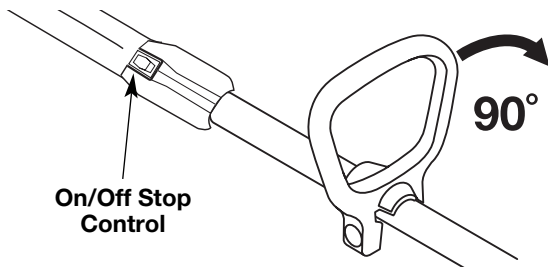

Fig. 12
- b) Rotate the D-handle 90° to the right (when facing the unit away from the engine). Refer to Figure 12.